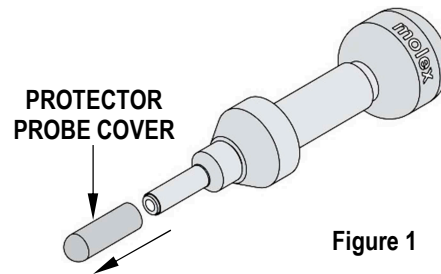

Figure 1
1. Remove the protector probe cover from the end of the tool. See Figure 1.